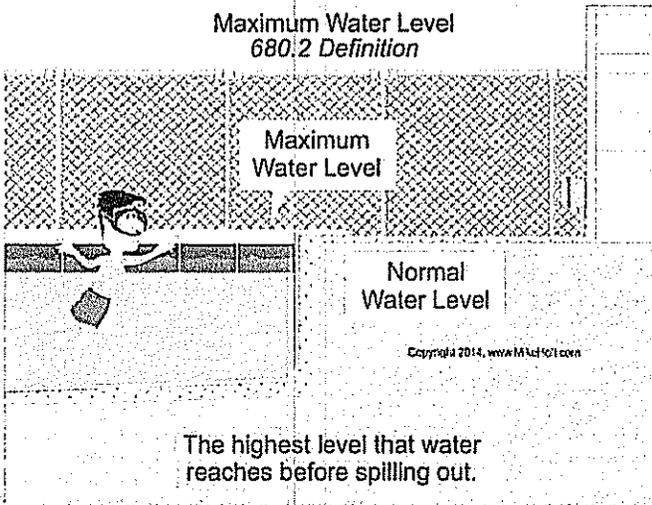

Figure 680-5
- (1) 15V (RMS) for sinusoidal alternating current
- (2) 21.20V peak for nonsinusoidal alternating current
- (3) 30V for continuous direct current
- (4) 12.40V peak for direct current that's interrupted at a rate of 10 to 200 Hz.
**Maximum Water Level.** The highest level that water reaches before it spills out. Figure 680-5